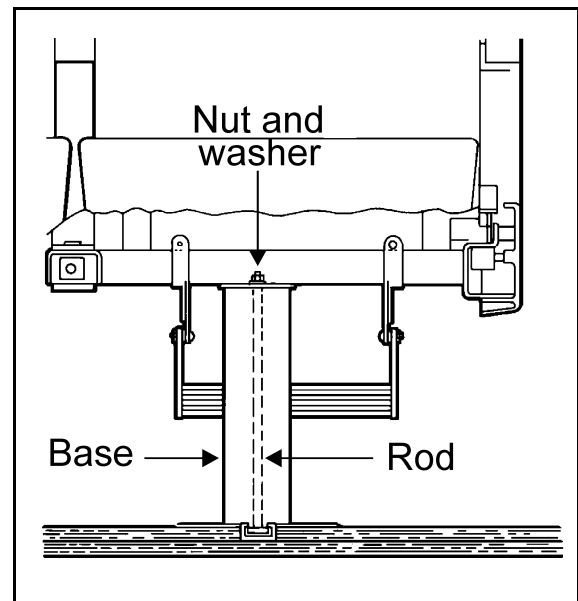

Figure 2: Front view of the fixed seats' base.
3. Remove two nuts and washers holding seat frame to base rods. See figure 2.